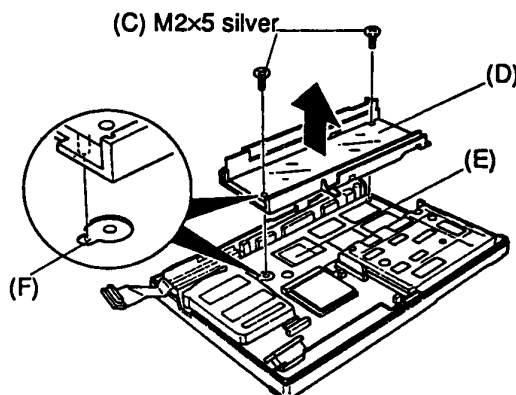

Figure 4-20 Removing the battery pack case
1. Align the battery pack case with the chassis as shown in figure 4-20. Set the locator tab into the locator notch on the chassis and press it into place.
2. Secure the battery pack case in place with the two screws (M2×5 silver) removed in step 3. Refer to figure 4-20.